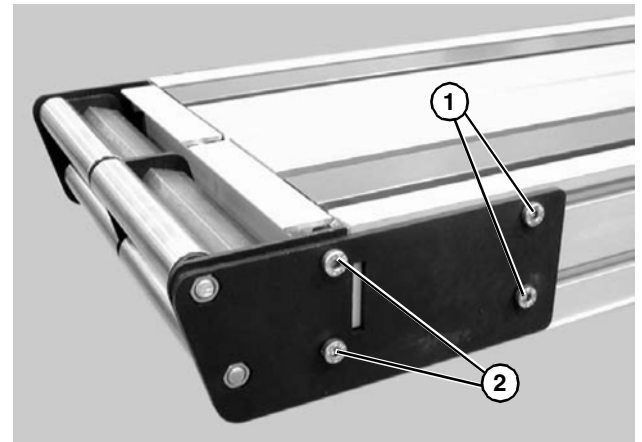

Figure 47
2. On one side of conveyor, remove the two (2) back fastening screws (**Figure 47, item 1**), and the two (2) front fastening screws (**Figure 47, item 2**).